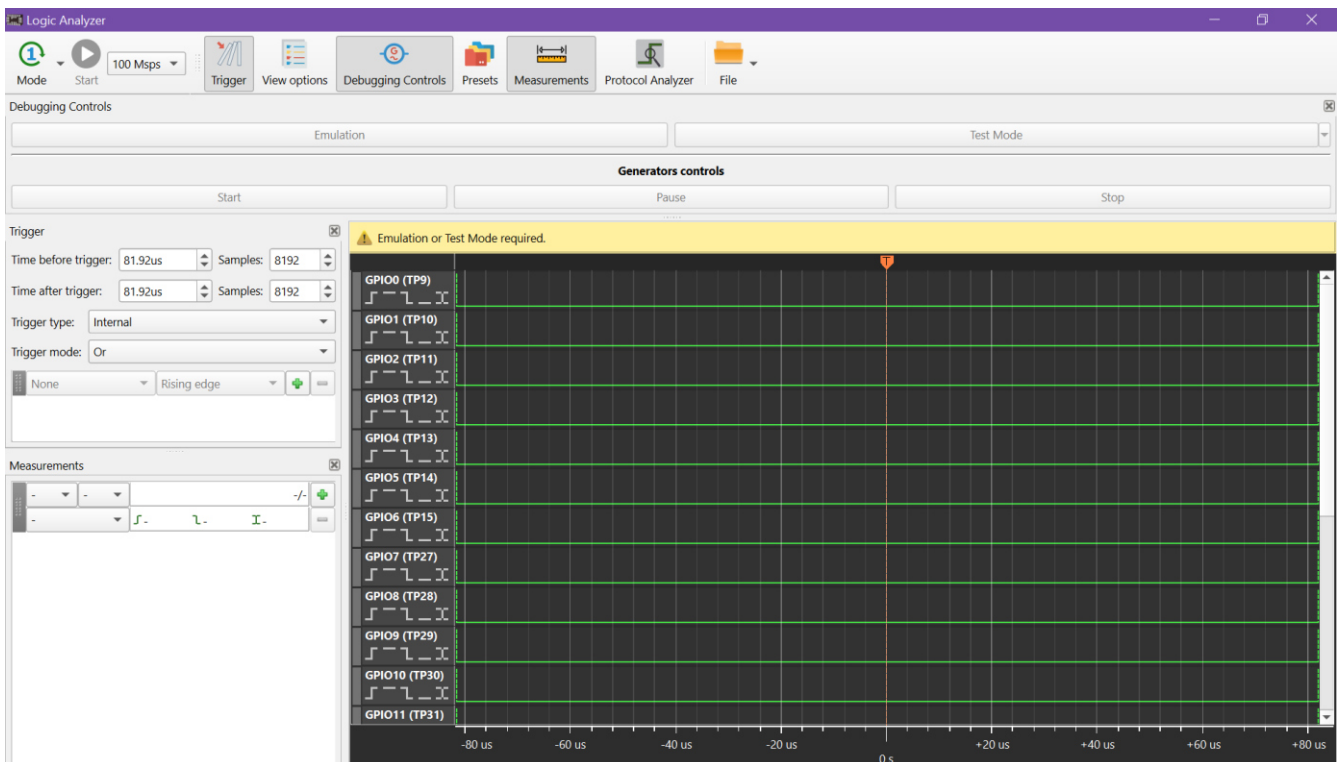

Figure 12: Logic Analyzer window
Below are the different features in the Signal Wizard for Synchronous Logic Generator (Figure 12)
The logic analyzer allows the user to test how the design behaves on the ForgeFPGA silicon during emulation whether testing mode without external tools. The user can pop up the logic analyzer (Figure 12) by clicking the Logic analyzer button on the ForgeFPGA tool bar (Figure 11).
2. From the ForgeFPGA tool bar (Figure 12) select the FPGA Editor tab.